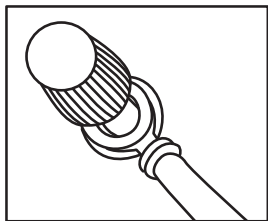

Fig. 1
- Undo the red nut **16** on the car power inverter **1**. Guide the red fork eyelet of the cable with 12 V motor vehicle cigarette lighter plug **12** with the opening over the screw connector **7** (see Fig. 1). Make sure that the washer is positioned between the fork eyelet and the nut **16**.
- Undo the black nut **17** on the car power inverter **1**. Guide the black fork eyelet of the cable with 12 V motor vehicle cigarette lighter plug **12** with the opening over the 12 V screw connector **8** (see Fig. 1). Make sure that the washer is positioned between the fork eyelet and the nut **17**.
- Undo the red nut **16** on the car power inverter **1**. Guide the red fork eyelet of the cable with the red connecting clamp **10** over the 12 V screw connector **7** (see Fig. 1). Make sure that the washer is positioned between the fork eyelet and the nut **16**.
- Undo the black nut **17** on the car power inverter **1**. Guide the black fork eyelet of the cable with the black connecting clamp **11** over the screw connector **8** (see Fig. 1). Make sure that the washer is positioned between the fork eyelet and the nut **17**.